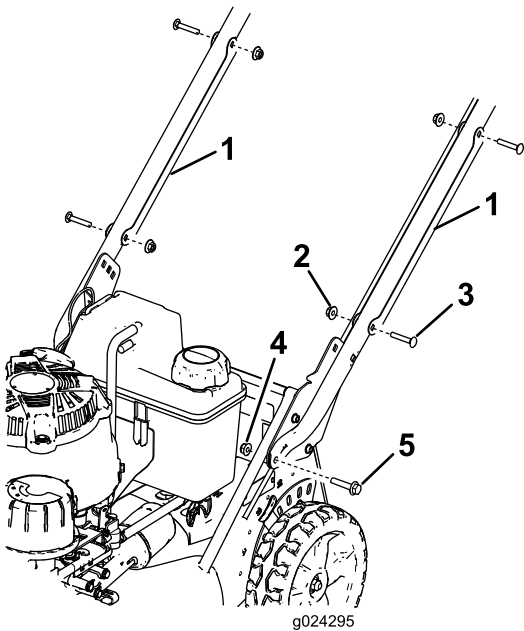

Figure 3
1. Remove the cable guard from the handle (Figure 3) by removing the 2 carriage bolts and 2 locknuts that hold the cable guard to the handle.
inches) and 2 flange nuts (5/16 inch) as shown in Figure 3.
1. Carriage bolt—5/16 x 1-1/2 inches (2)
2. Handle bracket (2)
3. Flange nut—5/16 inch (2)
7. Position the cable guard onto the handle **with the cable(s) inside the guard**, and secure the guard to the handle with the 2 carriage bolts and the 2 locknuts that you previously removed (Figure 3).